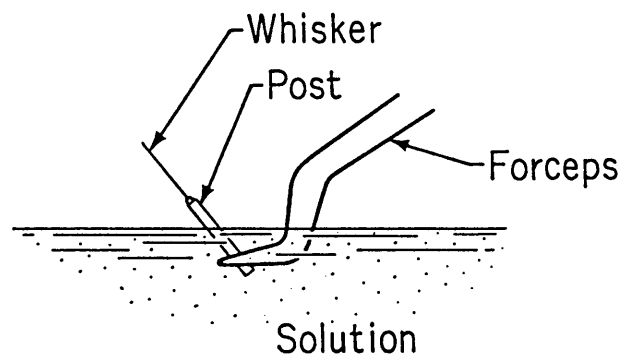

Fig. 9
14. Plate at 8 ma for 20 to 25 seconds in Autronex-N gold bath at UVA, entering and exiting whisker in such a way as not to burn it. (Figs. 9 and 10)